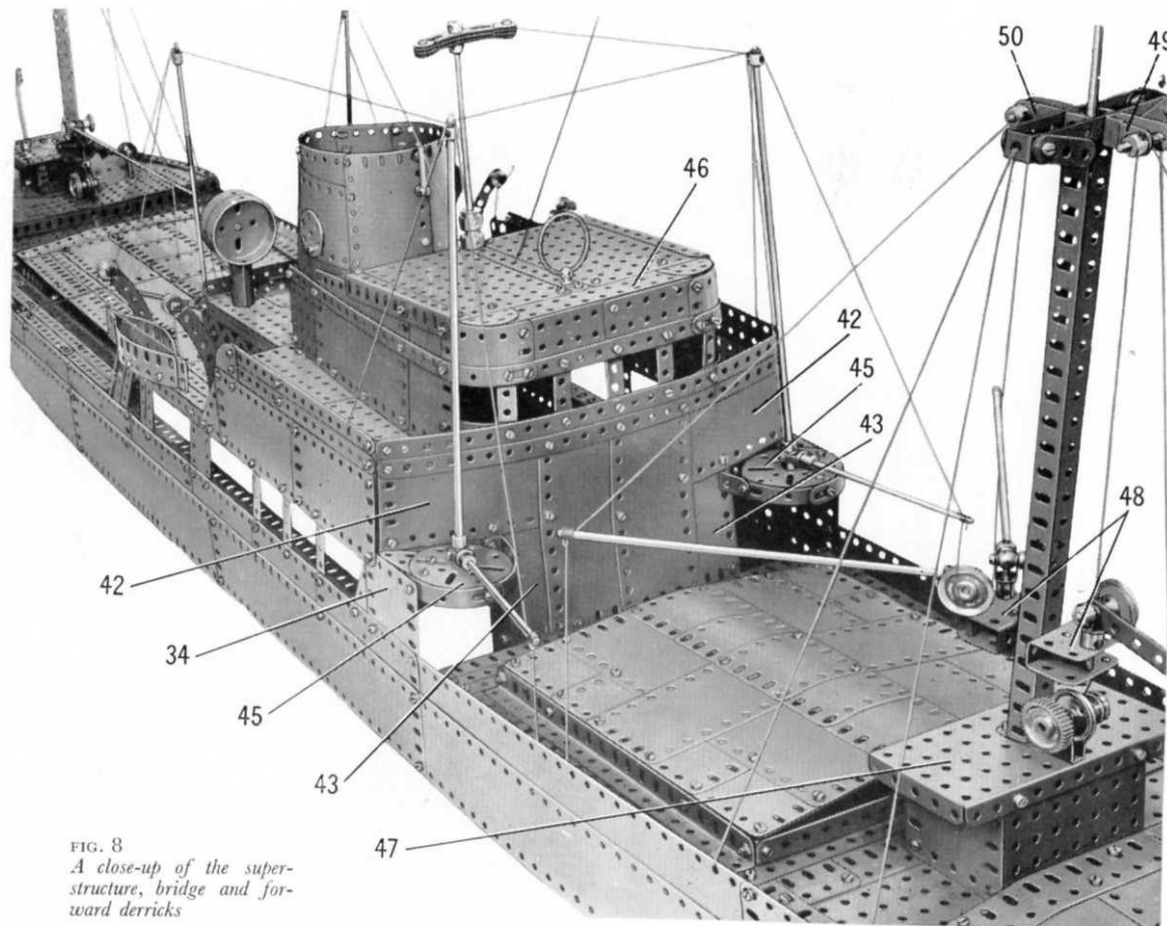

FIG. 8
The front of the superstructure is filled in by two vertical $5\frac{1}{2}$ " \times $2\frac{1}{2}$ " Flexible Plates at the centre, and a $4\frac{1}{2}$ " \times $2\frac{1}{2}$ " Flexible Plate (42) and a $3\frac{1}{2}$ " \times $2\frac{1}{2}$ " Flexible Plate (43) on each side (Fig. 8). A $5\frac{1}{2}$ " Strip (44) is bolted to the outer edge of each of the Plates (42), and a $3\frac{1}{2}$ " Strip is fixed to the outer edge of each Plate (43). The Plates are edged at the front by two $12\frac{1}{2}$ " Strips as seen in Fig. 8, and on the inside by a $12\frac{1}{2}$ " Strip placed one hole below the lower edges of the Plates (42) and bolted to the Strips (44).
Flat Plates, a $5\frac{1}{2}" \times 2\frac{1}{2}"$ Flanged Plate (46) (Fig. 8), and two Wheel Discs. The back is filled in by a $3\frac{1}{2}" \times 2\frac{1}{2}"$ Flanged Plate bolted to each side and connected at the centre by a $2\frac{1}{2}" \times 2\frac{1}{2}"$ Flexible Plate. A $7\frac{1}{2}"$ Flat Girder is attached to the roof and to the back by Obtuse Angle Brackets.
Two $3\frac{1}{2}" \times 2\frac{1}{2}"$ Flanged Plates are connected at their ends by $2\frac{1}{2}" \times 2\frac{1}{2}"$ Flexible Plates and are bolted to a $5\frac{1}{2}" \times 2\frac{1}{2}"$ Flanged Plate (47) (Fig. 8). This structure is attached to the deck by Angle Brackets. The foremast is formed by two $12\frac{1}{2}"$ Angle Girders bolted to Angle Brackets fixed to the Flanged Plate (47). The top ends of the Girders are bolted to the lugs of a large Fork Piece, which is placed with its boss downward, and supports a $6\frac{1}{2}"$ Rod. To each Angle Girder is fixed a Channel Bearing (48). Two $3\frac{1}{2}"$ Strips and four $1\frac{1}{2}"$ Strips connected by Double Brackets are fixed to the top of the Angle Girders, and a Stepped Bent Strip (49) and a Single Bent Strip (50) are attached to them (Fig. 8).